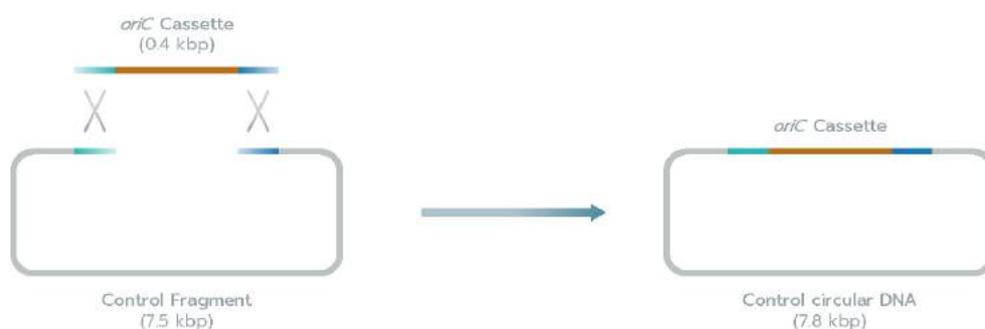

Figure 4. *oriC* Cassette and Control Fragment
(1) 2X RA Mix	12.5 µl	(4) 10X RE Mix	10 µl
(2) oriC Cassette* ¹ (50 pg/µl)	10 µl	(5) 5X Buffer I	40 µl* ²
(3) Control Fragment* ¹ (1 ng/µl)	5 µl	(6) 5X Buffer II	40 µl* ²
*1: *oriC* Cassette is a 378 bp DNA fragment containing *oriC* (*E. coli* chromosomal origin) sequence. Both ends of the *oriC* Cassette have 40 bp overlapping sequences against Control Fragment (7.5 kb) (Figure. 4). See Appendix for sequence information.